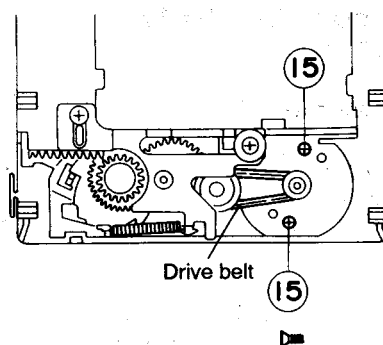

Fig. 7-15
■ How to Remove the CD Amplifier P.C. board (Refer to Fig. 7-15)
1. Remove the two screws (14) retaining the CD amplifier P.C. board.
■ How to Remove the Main Parts of CD Mechanism (Refer to Figs. 7-15 and 7-16)
4. Remove the two screws (15) retaining the loading motor, and dismount the drive belt from the pulley.
6. Turn the loading base over and remove the loading motor P.C. board by opening the three pawls retaining the P.C. board in the arrow direction (A).